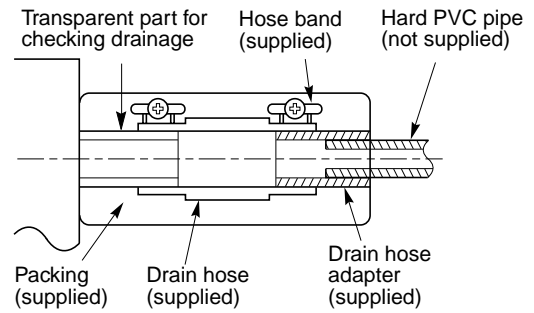

Fig. 3-6
- Prepare standard hard PVC pipe (O.D. 1-3/64 in.) for the drain and use the supplied drain hose and hose band to prevent water leaks. The PVC pipe must be purchased separately. The transparent part allows you to check drainage. (Fig. 3-6)
Tighten the hose clamps so their locking nuts face upward. (Fig. 3-6)